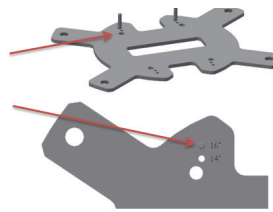

Figure 54
5.0.11) Assemble the cartridge alignment plate by threading in two of the 3/8" threaded alignment pins. When installing a 14" cartridge, the holes closer to the center of the plate should be used. When installing a 16" cartridge, the holes further from center should be used (see Figure 54).